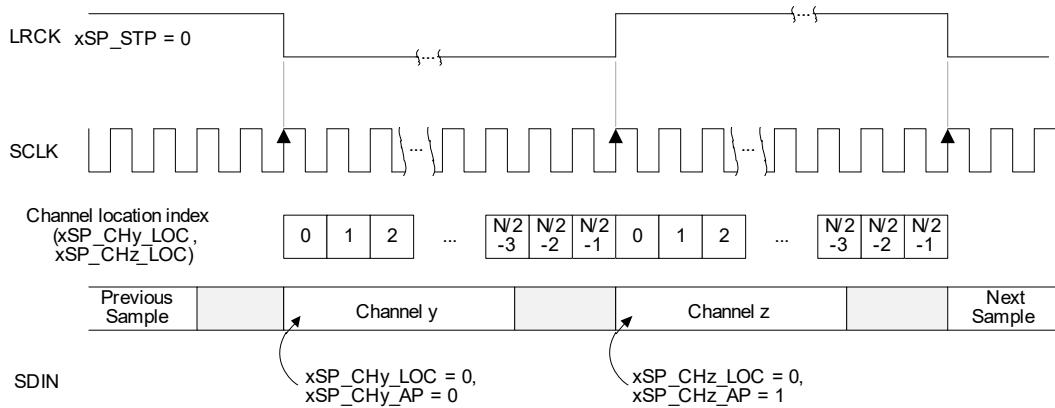

Figure 4-26. Example 50/50 Mode (ASP_STP = 0)
- If $xSP_STP = 0$, the frame begins when LRCK/FSYNC transitions from high to low. See Fig. 4-26 for an example in 50/50 mode. The TDM Mode behaves similarly.